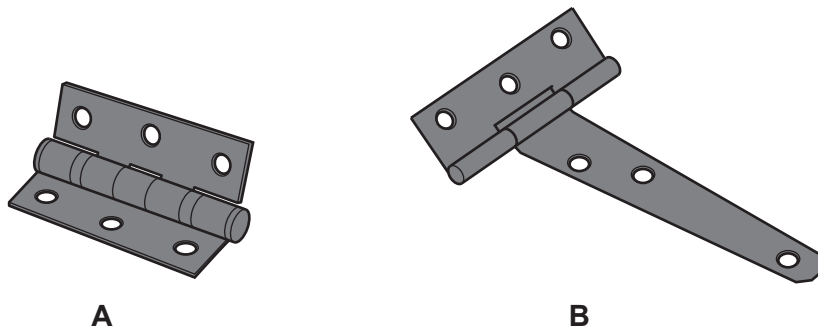

Fig. 11.3
- (c) Fig. 11.3 shows two types of hinge that could be screwed to the toolbox to allow the sides to open and close.